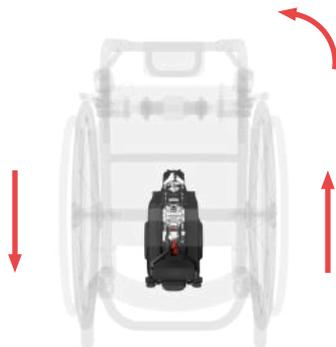

Figure 33
**An example:** to turn right, brake the right wheel and push the left wheel at the same time. To turn left, brake the left wheel and at the same time push the right wheel. It is advisable, particularly in the initial learning stages, to reduce the speed before commencing a curve by acting on the Controller (see section 9.2) (Figure 33).